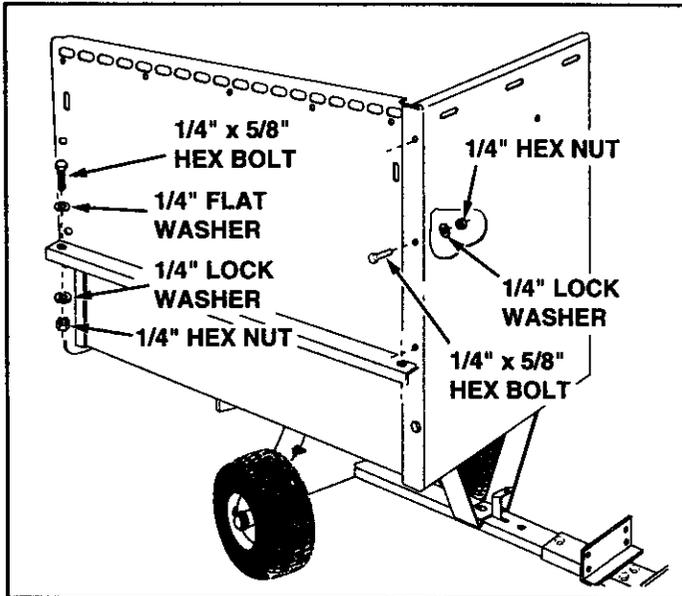

FIGURE 12
- Place a side panel down onto the cart, fitting it **inside** the front panel. Fasten the side panel to the front panel using three 1/4" x 5/8" hex bolts, 1/4" lock washers and 1/4" hex nuts. Fasten the side panel to the cart bed flange using two 1/4" x 5/8" hex bolts, 1/4" flat washers, 1/4" lock washers and 1/4" hex nuts. **Tighten.** See figure 12. Repeat on other side.